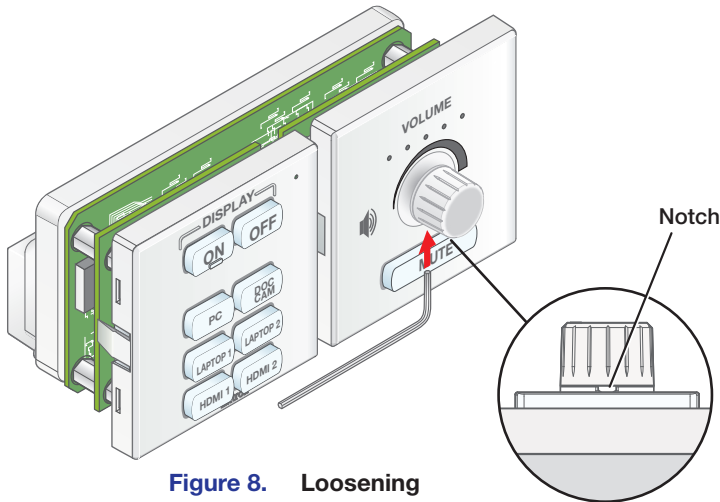

Figure 8. Loosening the Set Screw to Remove the Volume Knob
- b. If removing the volume control faceplate, remove the volume control knob (figure 8) as follows: